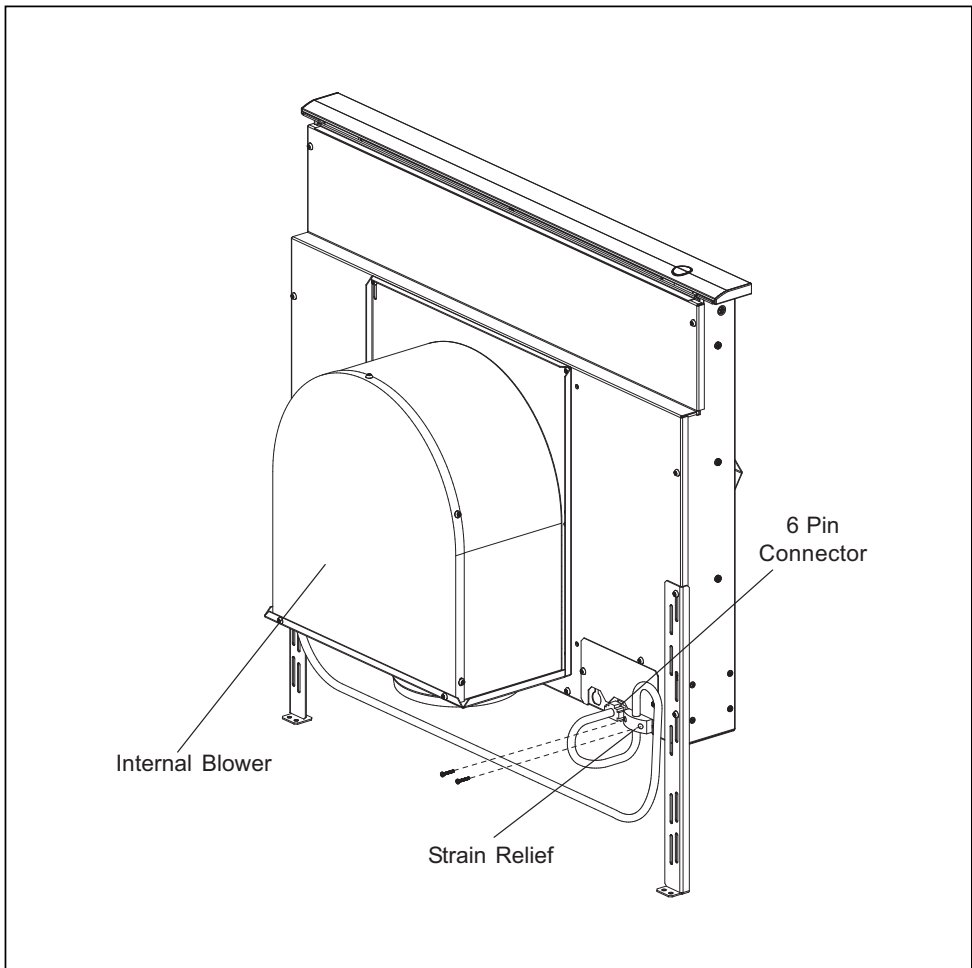

Fig. 10 – Internal Blower
Integral Blower (see Figures 10 and 12 for further detail):
- A. Remove junction box cover and connect conduit with 5 wires from remote blower. Hook up wires per Wiring Diagramm. Fig. 10. Replace junction box cover.